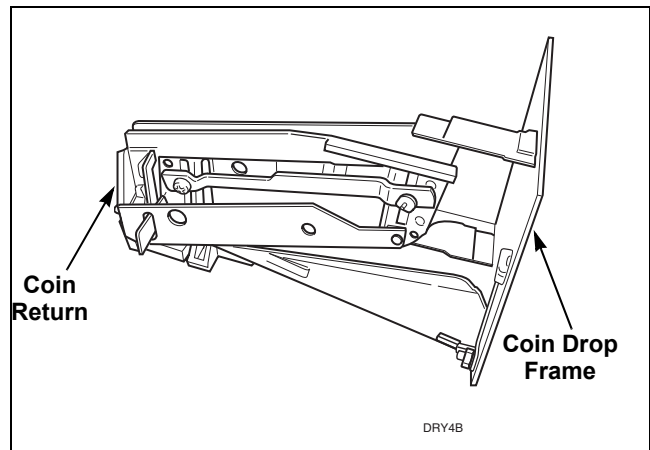

Figure 20
- Remove coin return from coin drop frame. Refer to *Figure 20*.